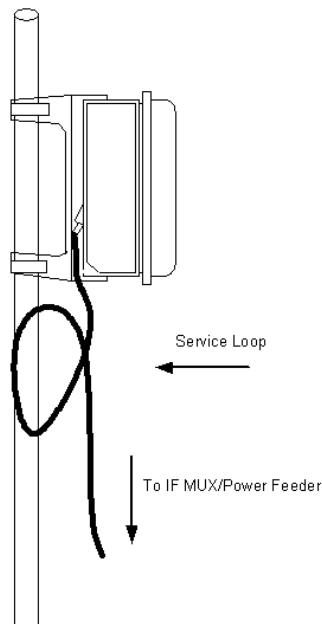

Figure 5-14: BS 28 GHz ODU Service Loop
- Refer to Figure 5-14. When routing the coaxial cable, leave a **service loop** at the RFU end to provide a sufficient length of cable to enable replacing faulty connectors, when necessary.